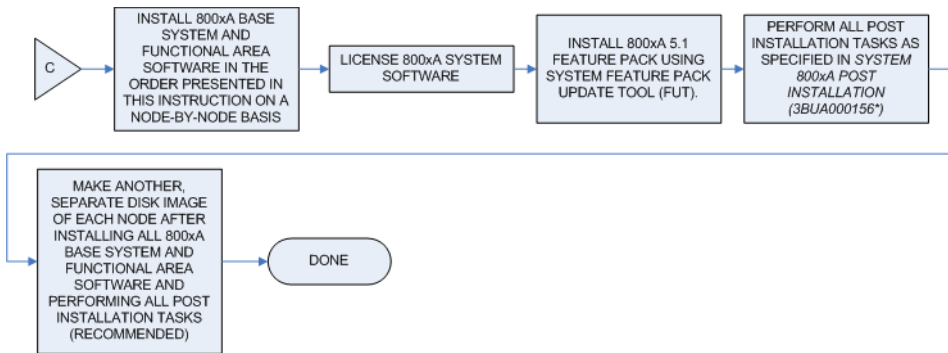

Figure 4. Install 800xA 5.1 Feature Pack using System Feature Pack Update Tool (FUT)
- 800xA Base System, Functional Area, and Feature Pack software installation and post installation (Figure 4).